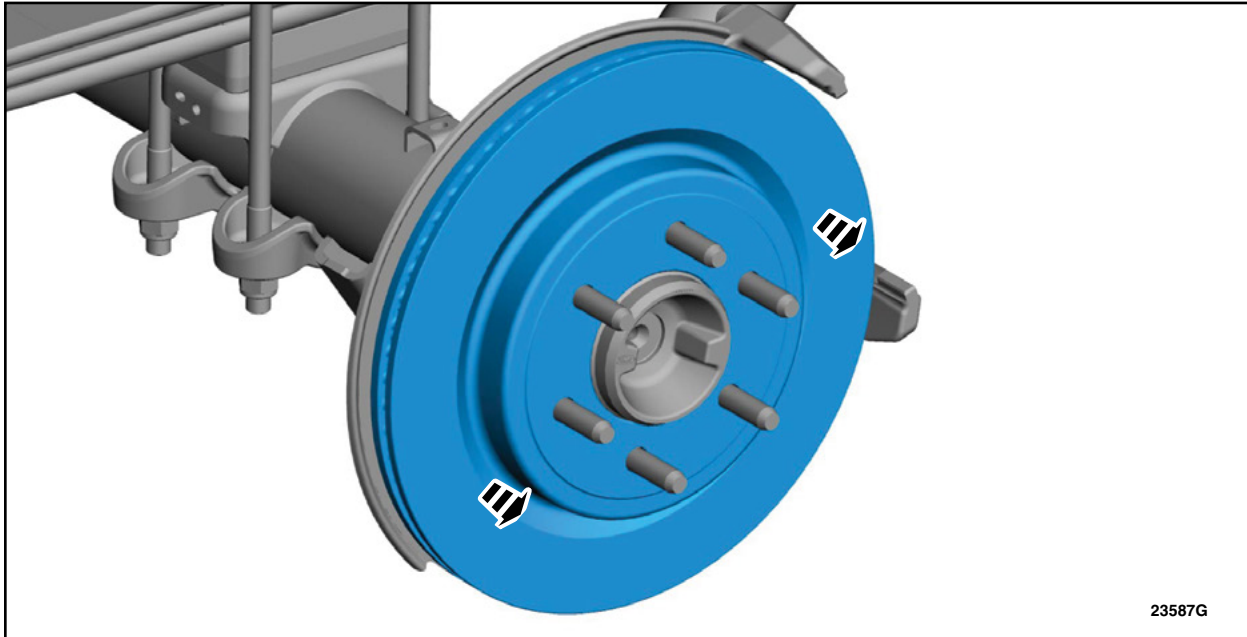

FIGURE 3
7. On both sides, remove the brake disc. See Figure 3.